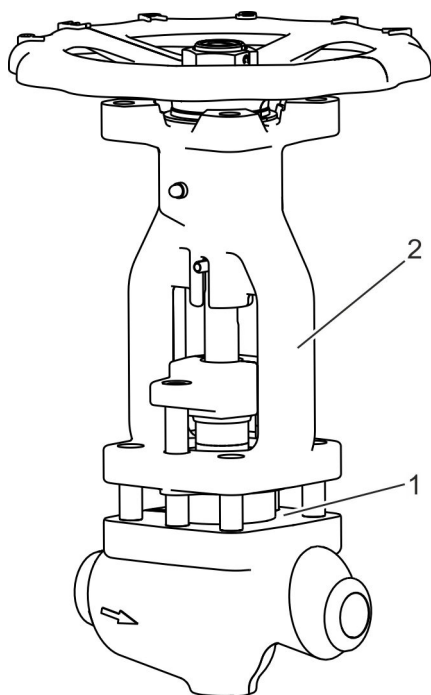

Fig. 24: Positioning the nuts
7. ▶ Position two spacers of the same height opposite each other between the body (Fig. 24/1) and the bonnet (Fig. 24/2).